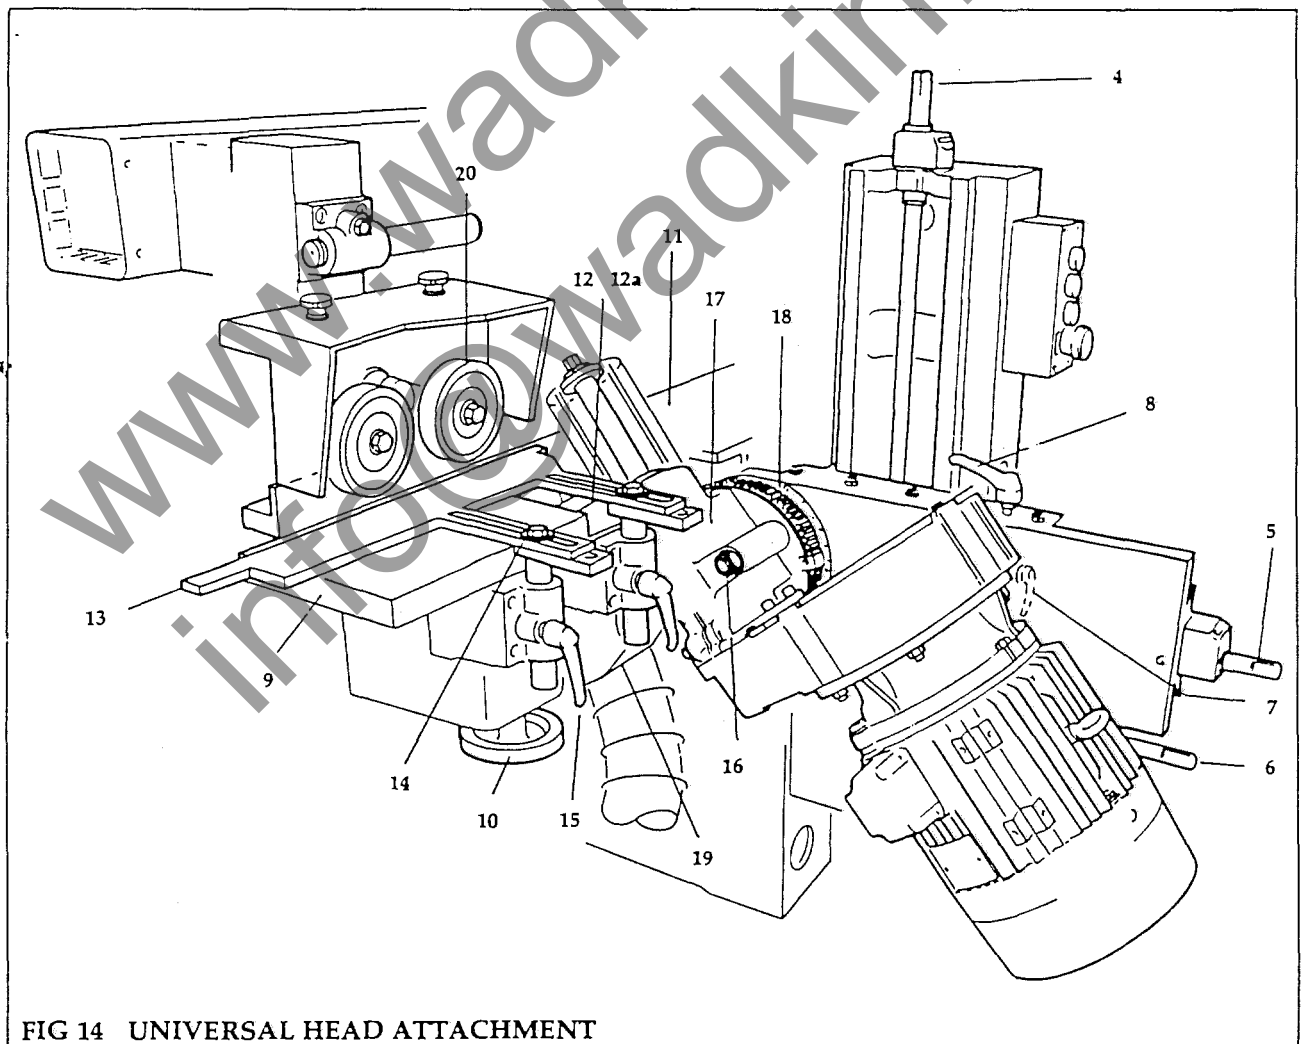
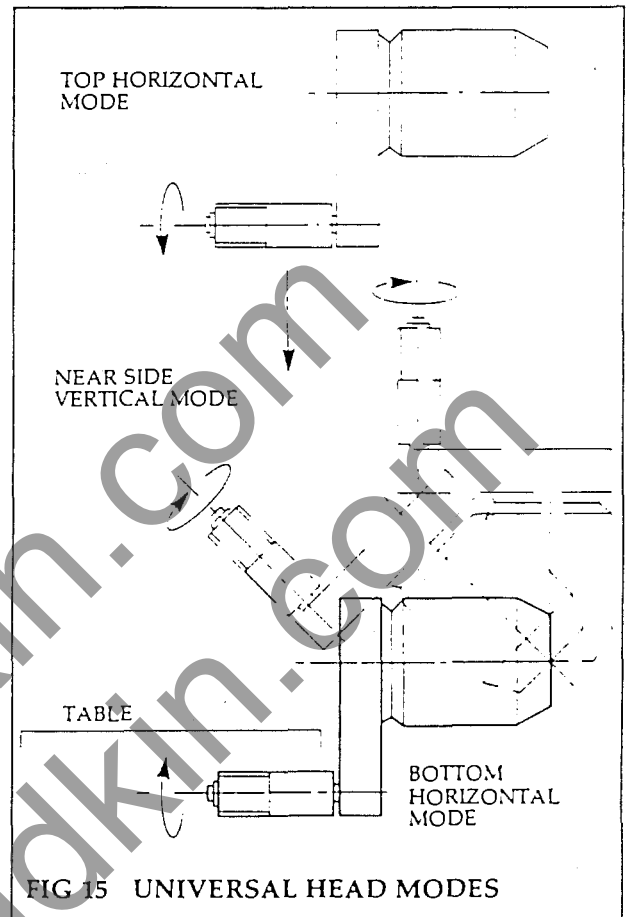

FIG 14 UNIVERSAL HEAD ATTACHMENT
FIG 15 UNIVERSAL HEAD MODES
- (2) Check direction of cut. Ensure the locking collar (3) is fitted.
**NOTE:** In the Bottom Head position always change the cutterblock from the rear of the machine. However, in the Vertical mode it is possible to change the cutterblock from the nearside, using a similar procedure. (See Fig 15 for Universal Head modes). Fig 7 shows the head in the nearside vertical (angled or canted) mode.
- (1) Inch timber through machine and set side guide (13) by slackening screws (14) and sliding guide laterally. Retighten screws, (see Fig 14).
- (2) Adjust feed roll height as for Second Bottom Head.
Universal Head Modes (Fig 14, Fig 15, Fig 16)
**NOTE:** Check direction of spindle rotation before commencing work (see Fig 15).
- (5) Set guide (13) for width and height using setscrews (14) and locking handles (15) (see Fig. 14).
The universal head in the nearside vertical mode will accommodate a cutterblock having a cutting circle of 125 to 180 mm. The spindle can be positioned at any angle between vertical and horizontal as required (see Fig 14), using the wormdrive shaft (6). In addition, the cutter can be positioned vertically and laterally in relation to the workpiece, in increments of 0.1mm, using the traverse screws (4) and (5).
**NOTE:** In the nearside and angled positions it is necessary to remove the dust-hood (19).
- (1) To adjust vertically: release the locking handle (7), place crank handle on square of vertical traverse screw (4), turn clockwise to raise head or anticlockwise to lower. Refasten locking handle (7) after adjustment.
- (2) To adjust laterally: release the locking handle (8), place crank handle on square of lateral traverse screw (5), turn clockwise to move forward or anticlockwise to move back. Refasten locking handle (8) after adjustment.
- (3) To angle (cant) the spindle: unscrew the two hexagon nuts (16) at the spindle carriage (17), place crank handle on square of worm drive (6) and adjust angle. Retighten the two nuts (16) after adjustment. The angle is measured in degrees from the horizontal on the graduated scale (18).
- (4) Fit metal rails (12a) to suit width of the work.
- (5) Select reverse motor drive (lefthand position REV) at the control panel. Check rotation of spindle.
- (6) Adjust the feed roll pressure, pressure shoes and side guides on first workpiece to ensure a smooth feed.